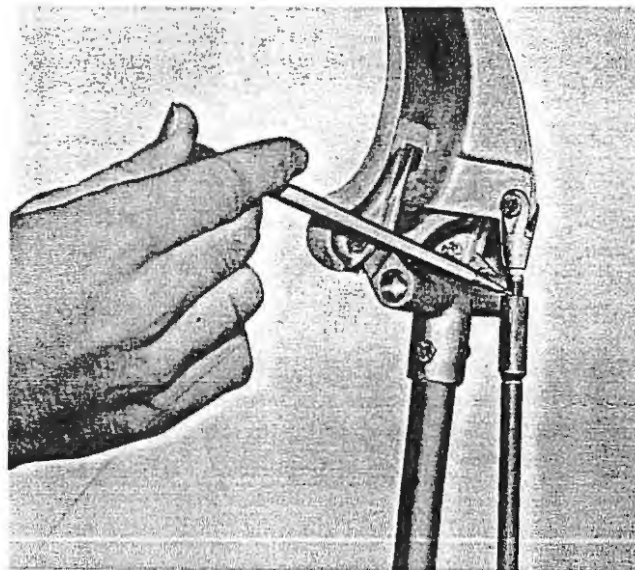

Figure 2-66. Brake Pedal Adjustment
- c. Adjust linkage at brake pedal to set the pedal at 90 degrees to the floorboards (figure 2-66) with the rudder pedal in neutral position.
The master cylinder linkage (figure 2-65) and the brake pedal push rod (figure 2-66) utilize connecting joints in which no grip bushings are used. Whenever it is found necessary to re-